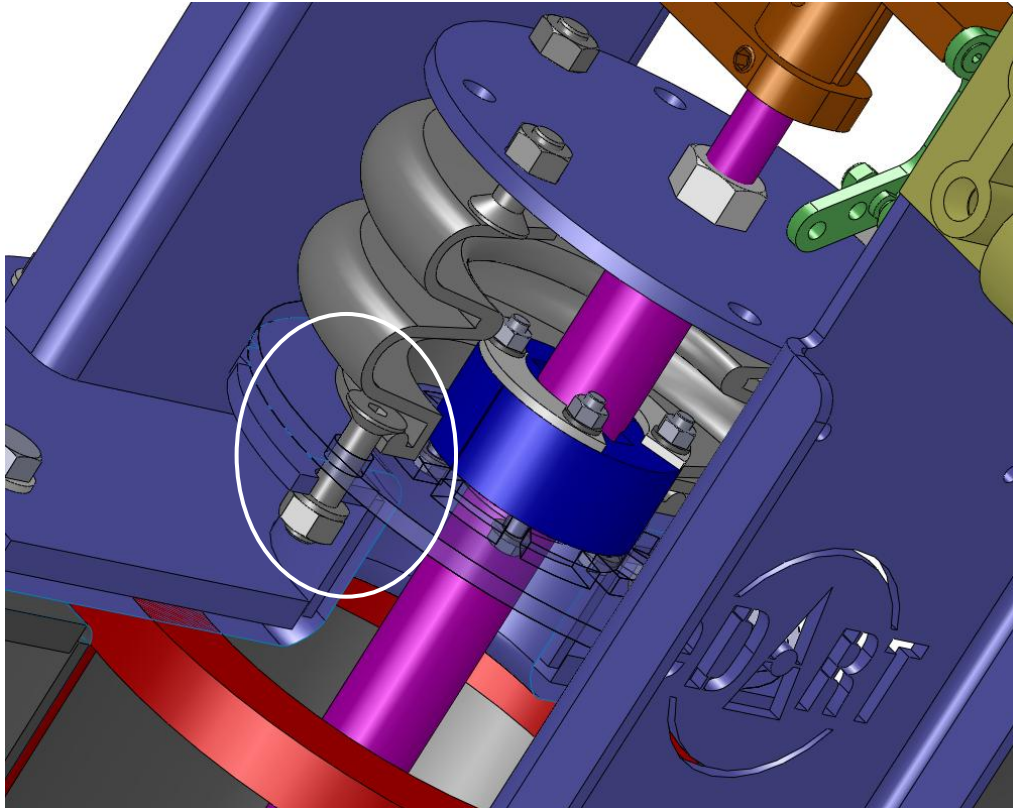

Figure 7: Partial section through bonnet showing location of guides and indicating the bolts to remove in order to gain access.
5. Loosen the bottom bolts attaching the bellow seal to the bonnet as indicated in Figure 7